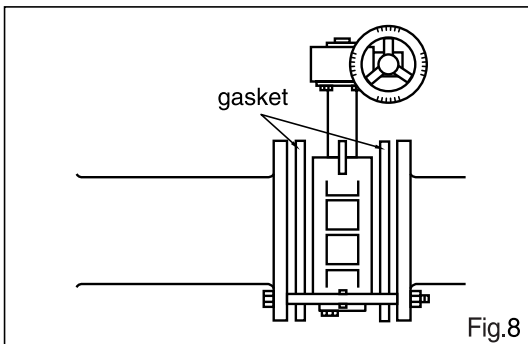

Fig.8
- **Gasket packing** : The insertion between the valve and the piping-flanges shall be needed the gaskets. In inserting, adjust both the valve and the gasket to the center of the flanges accurately. Keep space of about 3mm to 5mm between the valve to the piping-gasket (the flanges) on each side. (Fig.8) Do not insert the valve between the piping flanges forcefully. And also, do not use the flexible material such as rubber to the gasket, otherwise, we recommend the joint seat as the piping-gasket. Further, in using the special gasket such as the spiral gasket, please contact to sales person in charge.